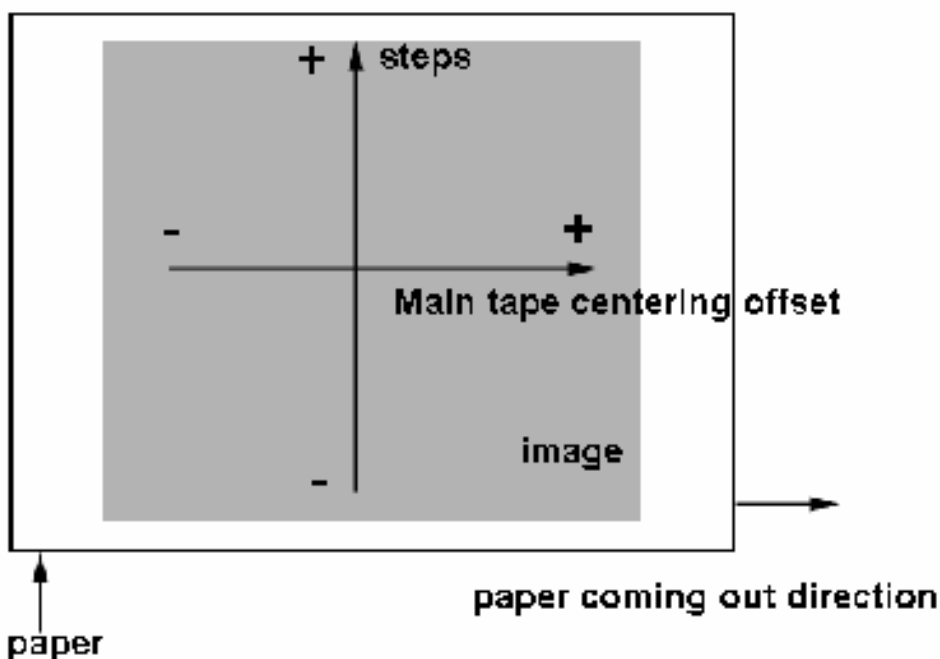

Fig 2.7.18
- If the 35 points image is not center, you can control as the table below (Fig 2.7.18):